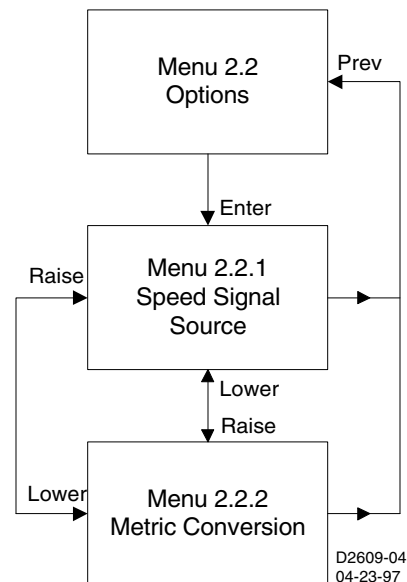

Figure 3-6. Menu 2.2
**Menu 2.2.** Menu 2.2 displays options. Pressing **Select/Enter** (Figure 3-6) begins the 2.2.1 level and displays the speed signal source selection. This is not adjustable from the front panel.